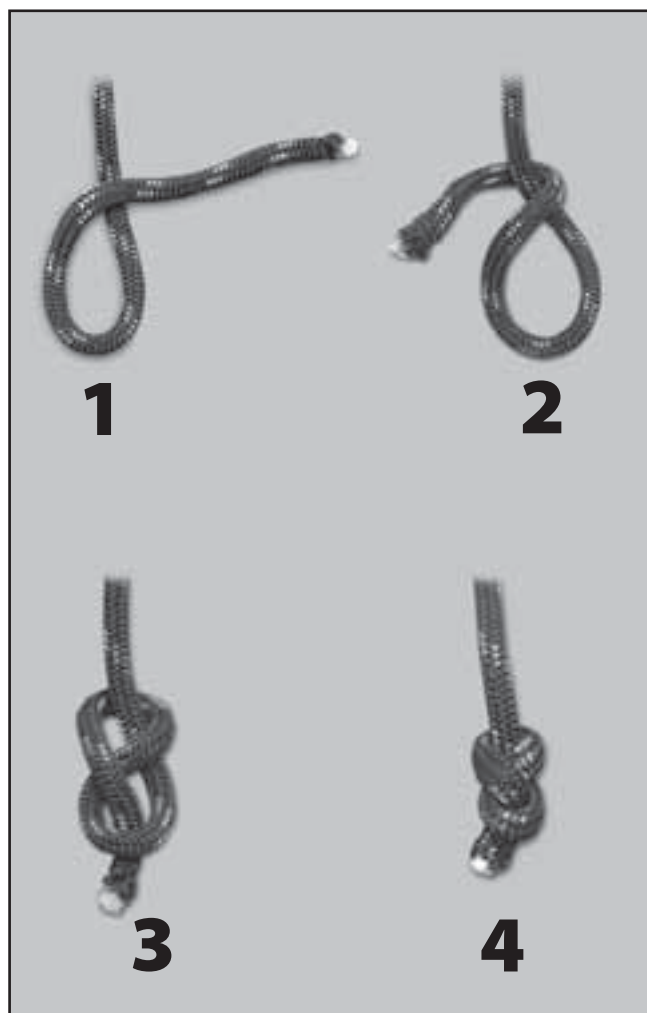

FIGURE 6.33
3. Tie a Figure Eight (Flemish, Savoy) Knot in the end of the Cord passing through the Traction Cord Spool. See Figure 6.33.